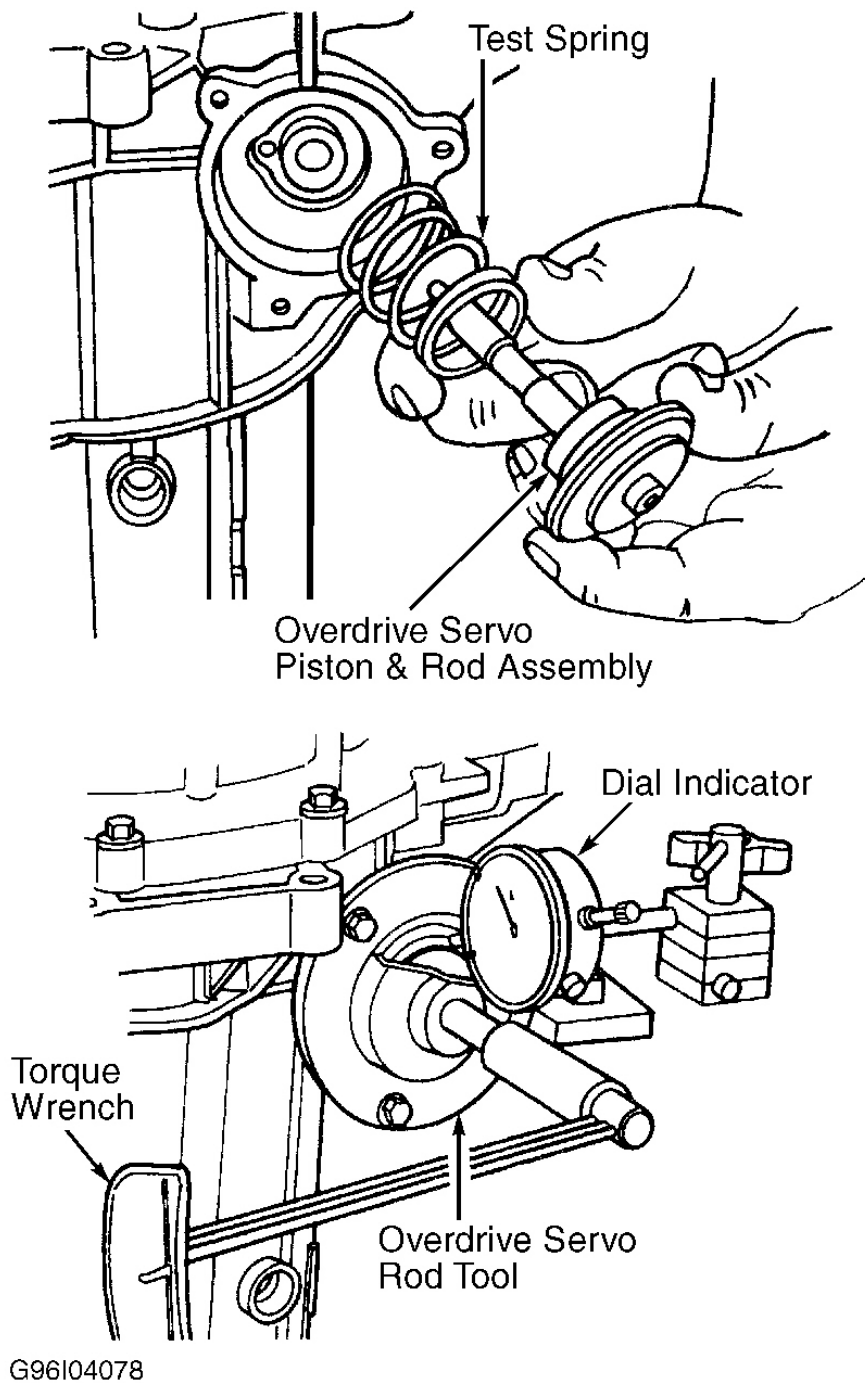

Fig. 40: Overdrive Servo Check
29. Install spring from Overdrive Servo Rod Kit (T86P-70023-B) in case. Install servo piston and rod in case. Install servo rod tool from kit and secure in case using servo cover bolts. Tighten bolts to 80-106 INCH lbs. (9-12 N.m). Tighten gauge center screw to 10 INCH lbs (1.13 N.m). See **Fig. 40** .